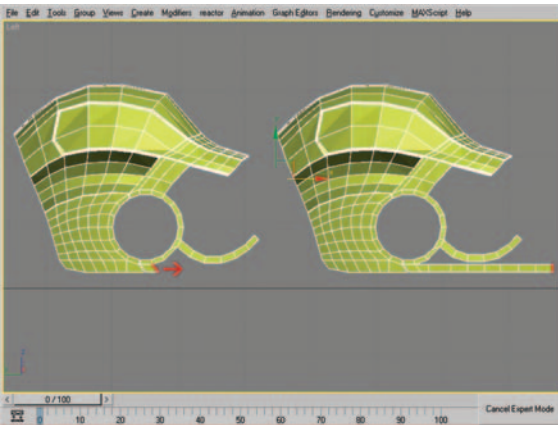

Figure 8.53 Edge selection (left) and resulting mesh after using shift-drag eight times (right).
54. Select the edge seen in Figure 8.53 (left) and shift-drag it eight times to produce the result seen in Figure 8.53 (right).